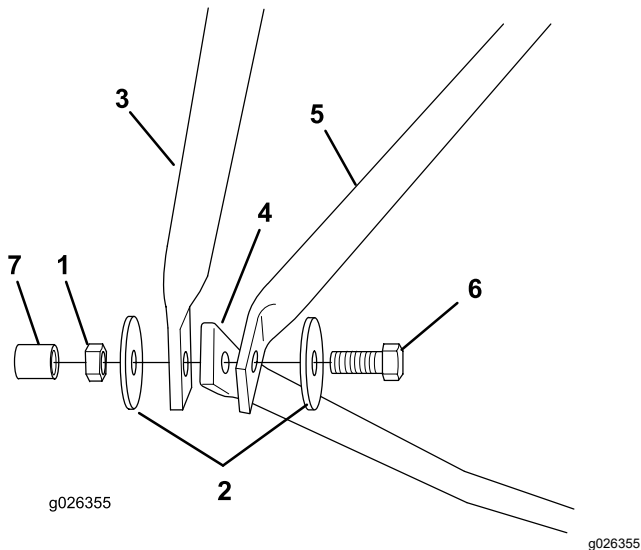

Figure 6
12. Hold the rear frame upright and tighten the locknuts (Figure 6).